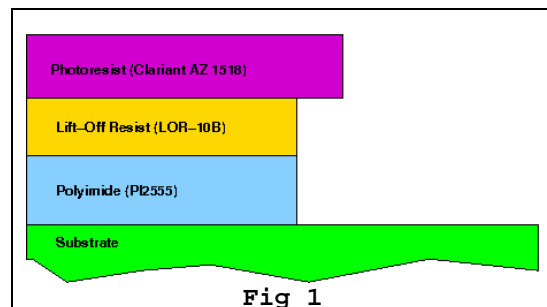

Fig 1
These instructions are for use with Clariant AZ 1518 photoresist (PR), lift-off resist (LOR-10B) and 3:1 PI2555:NMP to produce patterned structure shown in [Fig 1]. The developers AZ400K and MIF-319 (metal-ion-free) are used.